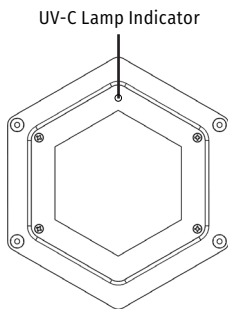

Fig. 5 UV-C lamp indicator
- For optimal performance, replace the device ionizing cell every 4 years and UV-C lamp every 2 years, even if the UV-C lamp appears to be operating normally. (See Fig. 5) **Note:** The replacement ionizing cell comes with a UV-C lamp.